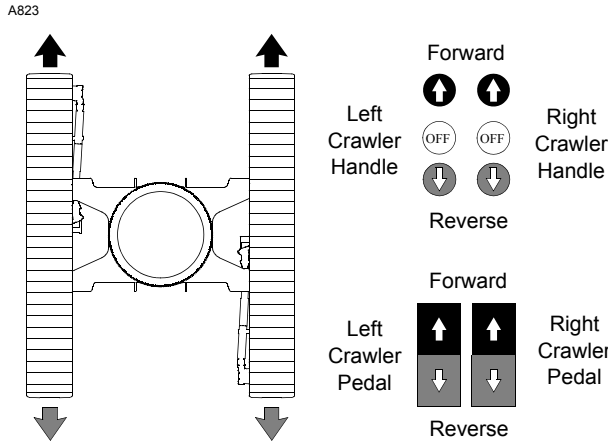

FIGURE 3-21
- To TRAVEL STRAIGHT (Figure 3-21), move both crawler handles/pedals same amount in desired direction from off.